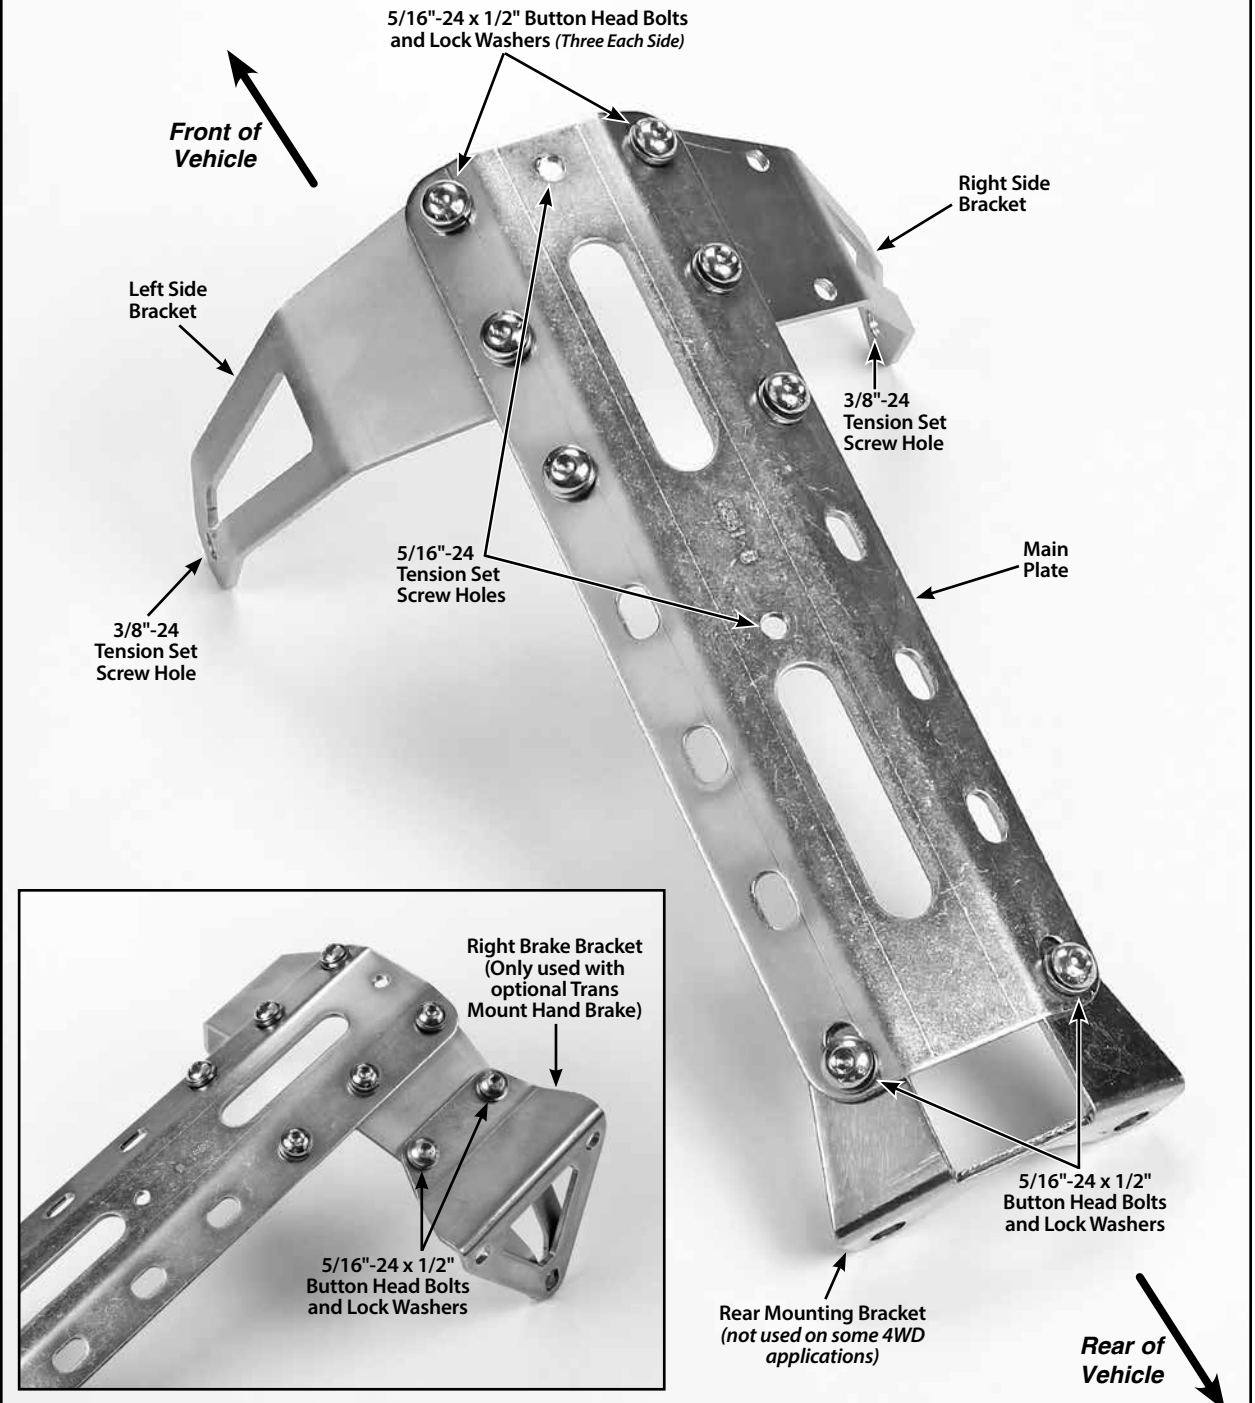

Fig. 3
The left side bracket and right side bracket bolt directly to the main plate. Attach the side brackets to the underside of the main plate as shown in **Fig. 3**, using three 5/16"-24 x 1/2" button head bolts and lock washers on each side. **DO NOT TIGHTEN AT THIS TIME.**
Step 4: Attach the rear mounting bracket to the underside of the main plate with the bracket ears pointing to the front of the transmission (toward the engine) as shown in **Fig. 3**, using two 5/16"-24 x 1/2" button head bolts and lock washers. **DO NOT TIGHTEN AT THIS TIME.**